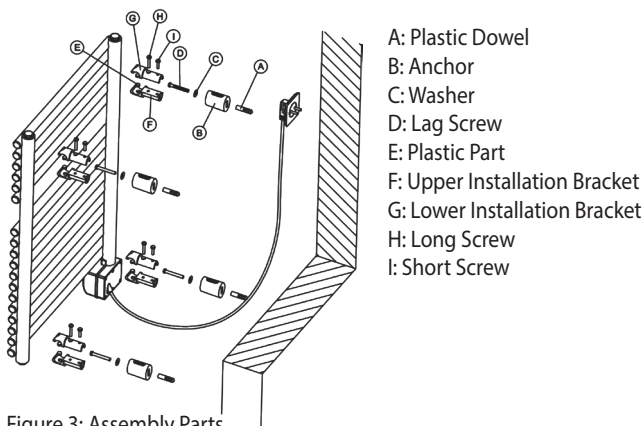
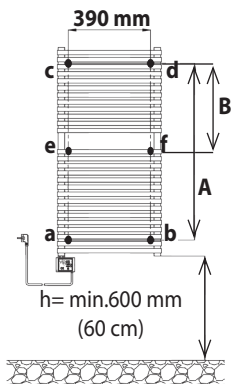

Figure 3: Assembly Parts
Figure 4: Mounting Dimensions
2. Correct space has to be measured in order that the connection cord can easily be connected to the electric socket. After determination of the installation area, the holes must be marked according to the method shown in Figure 4.
3. After marking the points according to Figure 4, the holes will be drilled by a Ø10 mm drill and the plastic dowels (see figure 3-part "A") that are in the installation items are inserted to these holes.
4. Attach the anchors(4 pieces) (see figure 3 - part "B") onto plastic dowels with the washer (see figure 3 - part "C") and the screw (see figure 3 - part "D")
5. Insert the plastic parts (see figure 3 - part "E") into the lower installation bracket (see figure 3 - part "G") and fix the installation brackets (see figure 3 - part "F-G") on the tubes with the screw (see figure 3 - part "H").
6. Attach the installation brackets(4 pieces) on the towel warmer and fix the towel warmer on the wall by screwing (see figure 3 - part "I") the installation brackets onto anchors (see figure 3 - part "B") on the wall.